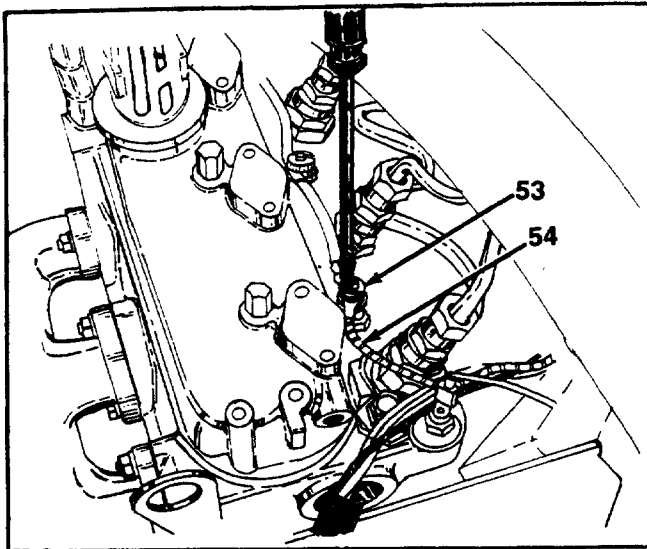

FIGURE 27.
30. Remove the thumb screw from top, front of engine, and remove the glow plug wire. See figure 27. Reassemble the thumb screw.